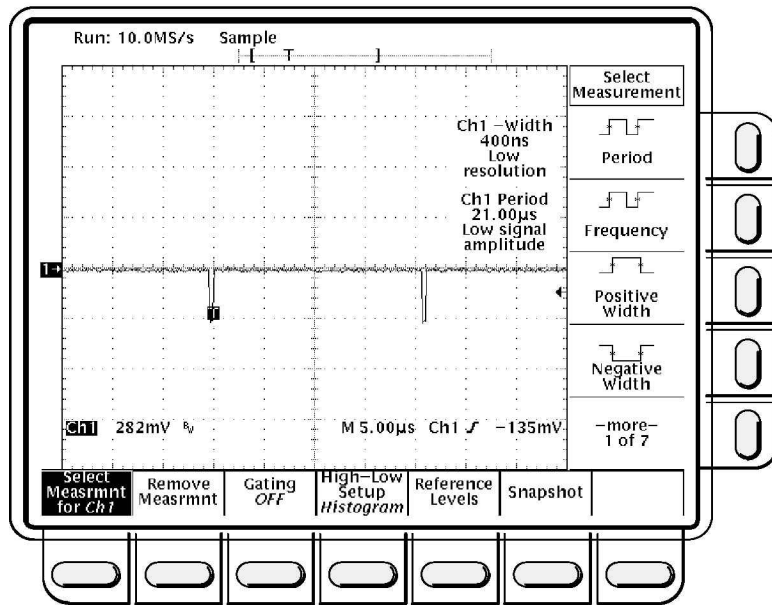

Figure 4-40: Sync Duty Cycle Test: Critically Adjusted Pulse
- Turn the pulse generator's PERIOD variable control to adjust the period until the oscilloscope **CH1 Period** measurement reads **21.000 μ s \pm 25/+50 ns** (see Figure 4-40). Read note shown below.